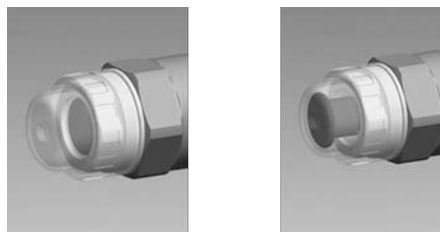

Fig. 10: Visual diaphragm rupture sensor, triggered and untriggered
With the **visual** diaphragm rupture sensor, the lowered red cylinder (6) springs forward beneath the transparent cover (7) so that it then becomes clearly visible - see Fig. 10.